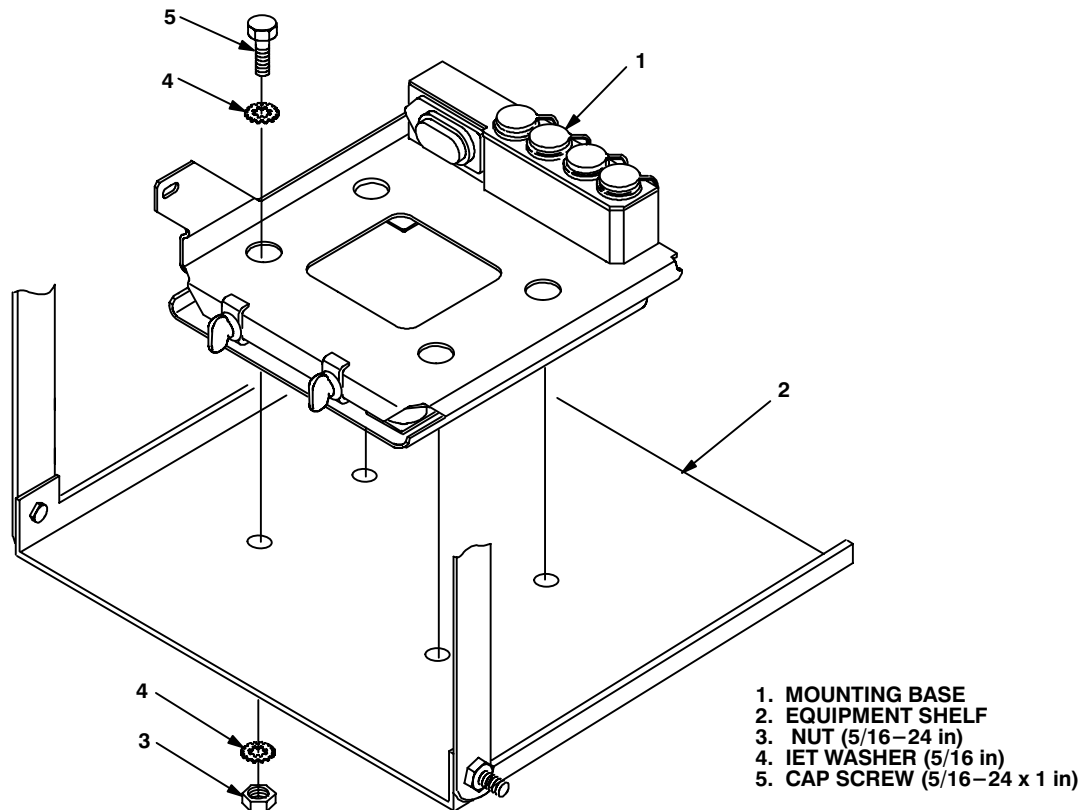

Figure 5-5. Mounting Base Installation
5.3 Installation of Mounting Base, Electrical Equipment MT-6576/VRC (mounting base). Remove and retain attaching bag of 5/16 in mounting hardware for installation. To insure good electrical grounding, any rust, corrosion or paint around mounting holes in equipment shelf should be removed before installing the mounting base. See figure 5-5 and perform the following steps.
a. Mounting base (1) and equipment shelf (2).	Remove a 2" square area of paint on the underside of mounting base (1) around four mounting holes. Remove a 2" square area of paint on equipment shelf (2) around the existing mounting holes that mate with mounting holes of mounting base (1). Clean the paint removed areas and apply a thin coat of conductive anti-seize compound.	Tools: Electric grinder or equivalent.
b. Mounting base (1).	Place on equipment shelf (2) and align mounting holes. See Figure 5-5.
c. Four cap screws (5), eight internal/external-toothed (IET) washers (4) and four nuts (3).	Install and secure to mounting base (1) and equipment shelf (2).	Tools: 1/2 in socket.